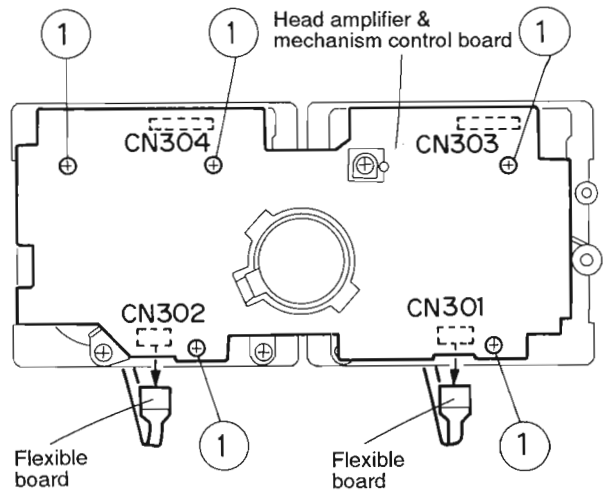

Fig.3-27
■ **Removing the Head Amp. & Mechanism Control P.C. Board (See Fig. 3-27)**
2. After turning over the cassette mechanism assembly, remove the five screws ① retaining the head amp. & mechanism control P.C. board.